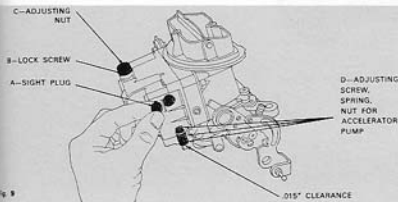

Fig. 9
5. **FLOAT LEVEL ADJUSTMENT**—Remove three sight plugs (Figure 9-A). Start engine. Observe fuel level through sight plug openings. *Correct fuel level is even with bottom threads in the sight plug ports—plus or minus  $\frac{1}{16}$ "*. If fuel level is incorrect, loosen lock screw (B) on affected carburetor. To raise fuel level, turn adjusting nut (C) below lock screw counterclockwise. Note:  $\frac{1}{6}$  turn will raise fuel level about  $\frac{1}{16}$ ". Turn the nut clockwise a like amount to lower fuel level. Allow the engine to idle a minute for the fuel level to stabilize. Tighten lock screw when fuel level is correct, replace sight plugs and air cleaner.
6. **ACCELERATOR PUMP**—With the engine off, block throttle lever in the wide-open position and hold pump lever screw down. Adjust clearance between adjusting nut and pump arm to .015" (Figure 9-D). Turn nut or screw as required. After adjustment, return throttle lever to normal closed position. Then move the throttle rod slightly. Rod should move accelerator pump lever without slack.